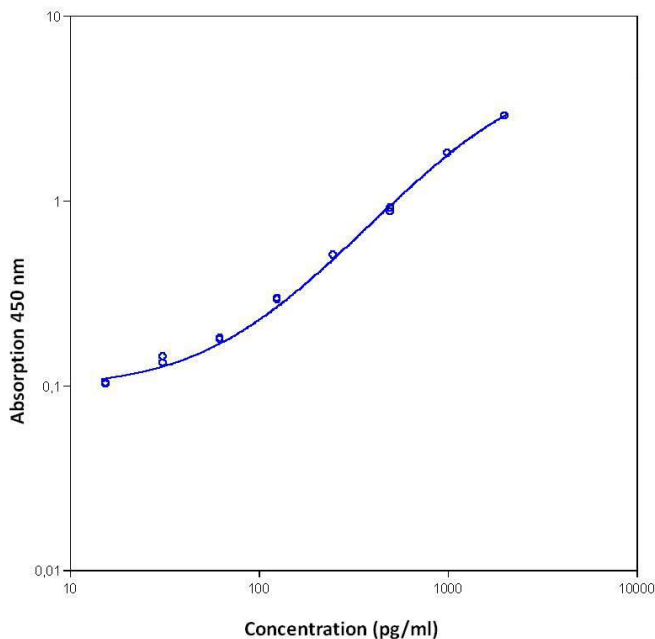

Fig. 9 Representative standard curve for Human IL-23 ELISA Kit. Human IL-23 was diluted in serial 2-fold steps in sample diluent.
- A representative standard curve is shown in Figure 9.